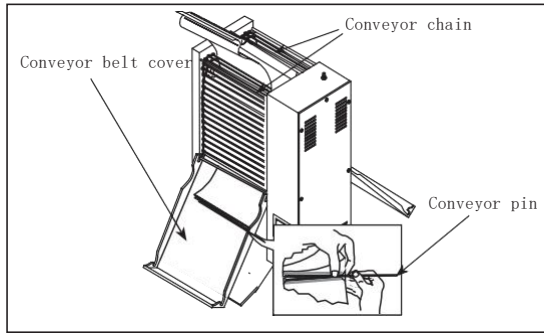

Figure3
3. Open the two belt covers, pull out the belt pin, and release the buckle. (Figure 3)